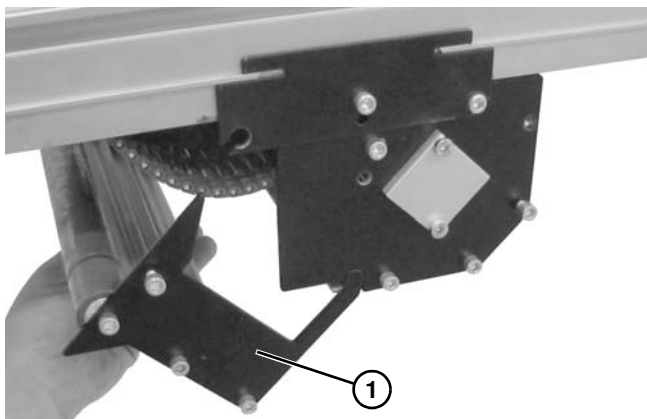

Figure 47
2. Lower bracket (**Figure 47, item 1**).